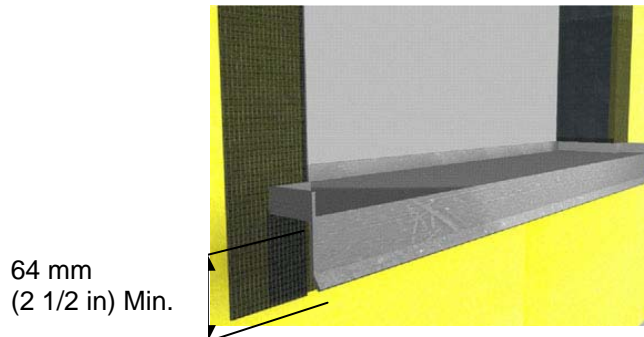

Figure 6
- Install a watertight pan flashing at all sill locations - Figure 6.
- The flashing shall extend a minimum of 64 mm (2 1/2 in) down over the face of the Outsulation RMD System - Figure 6.